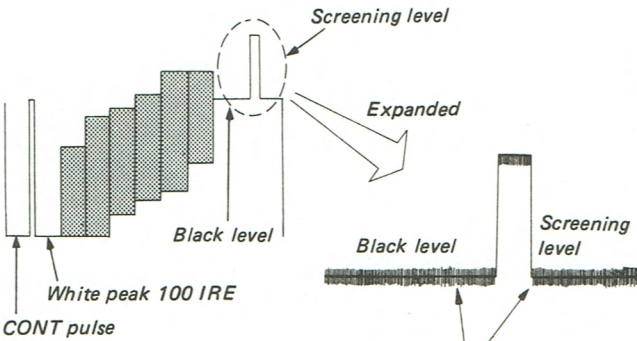

Fig. 32-3.
5. Turn RV13 on BG Board to align the black level of waveform (G signal) on oscilloscope with the screening level. See Fig. 32-3. (oscilloscope at maximum voltage sensitivity)